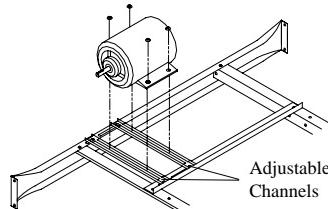

Fig. 1
• **Mount motor.** Slide the heads of the provided carriage bolts into the slots of the adjustable channels. Slide these channels sideways in the slotted holes to align with the holes in the motor base and to align the motor shaft with the blower pulley. Mount the motor to the motor mount using these carriage bolts and the washers and nuts provided (see Fig. 1). Make sure all bolts are securely tightened.